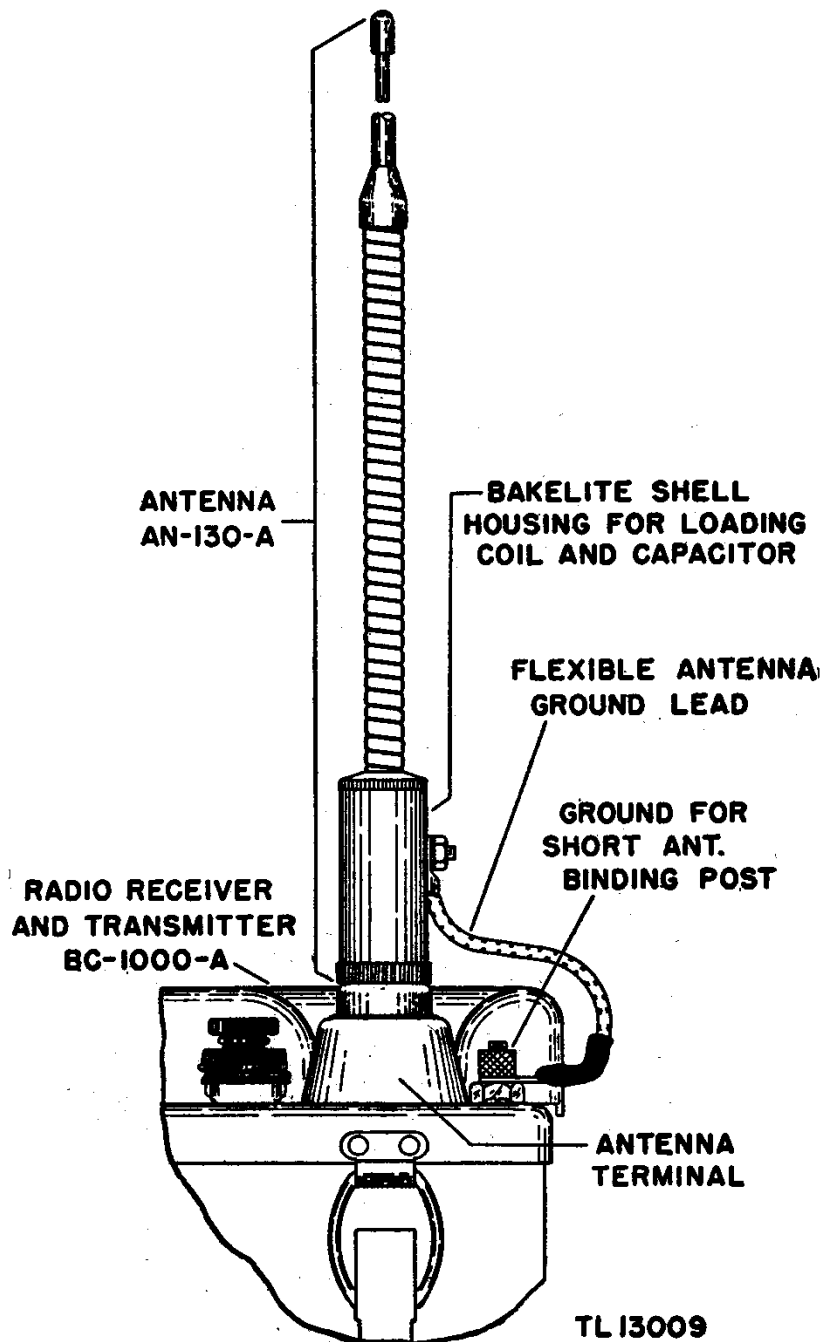

Figure 15. Antenna AN-130-A, installation detail.
- a. SHORT ANTENNA AN-130-A. (1) Remove the antenna from its case and fit the upper section into the lower.
- (2) Screw the assembled antenna into the antenna terminal of the set. Four or five turns should be sufficient. *Do not force.*
- (3) Connect the spade lug of the flexible ground lead to the GROUND FOR SHORT ANT. terminal on the front panel. (See fig. 15.)